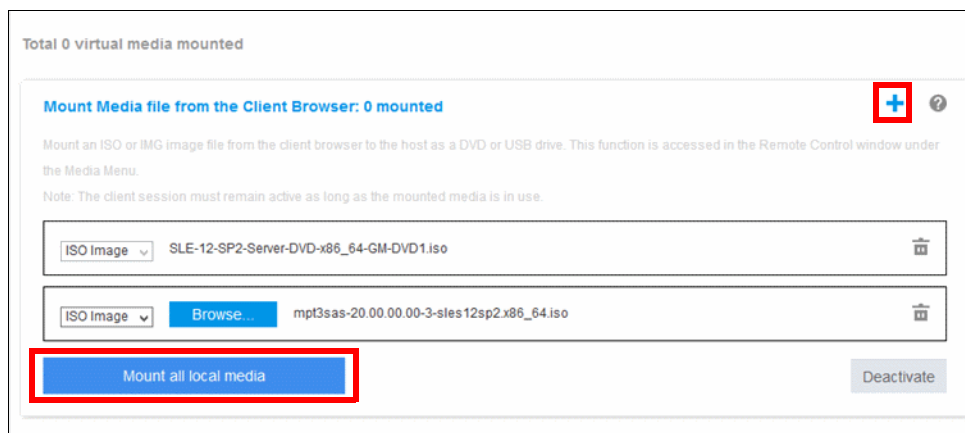

Figure 6-41 Mount OS ISO and driver ISO
5. Click **Mount all local media** to mount the OS and drivers as shown in Figure 6-41.